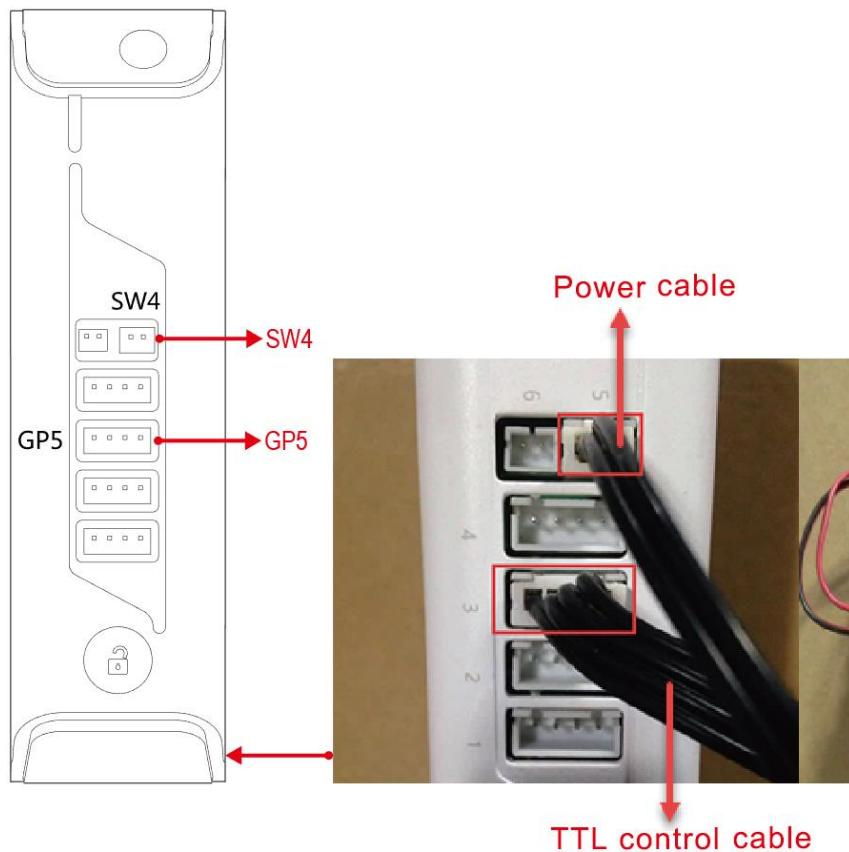

Figure 5.61 Connect the laser to the SW4 and GP5 connectors
- Step 2** Connect the laser's power cable to the **SW4** connector on the Forearm and the TTL control cable to the **GP5** connector, as shown in Figure 5.61.